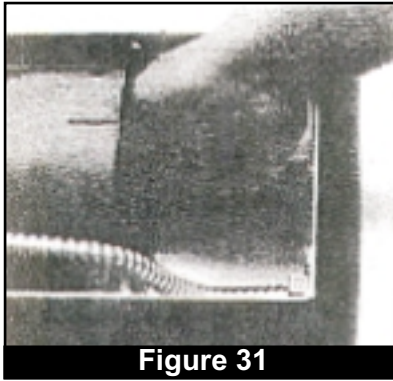

Figure 31
7. Pull the copper thermostat probe and tubing from the fan blower motor assembly area through the opening to the front cover (it may be necessary to feed the probe, into the bottom of the assembly area under the fan blower to achieve the correct angle). (Fig. 31)
11. Carefully guide new copper probe and tubing through the opening to fan blower motor housing and reattach probe clips with two flathead screws. (Fig. 31)